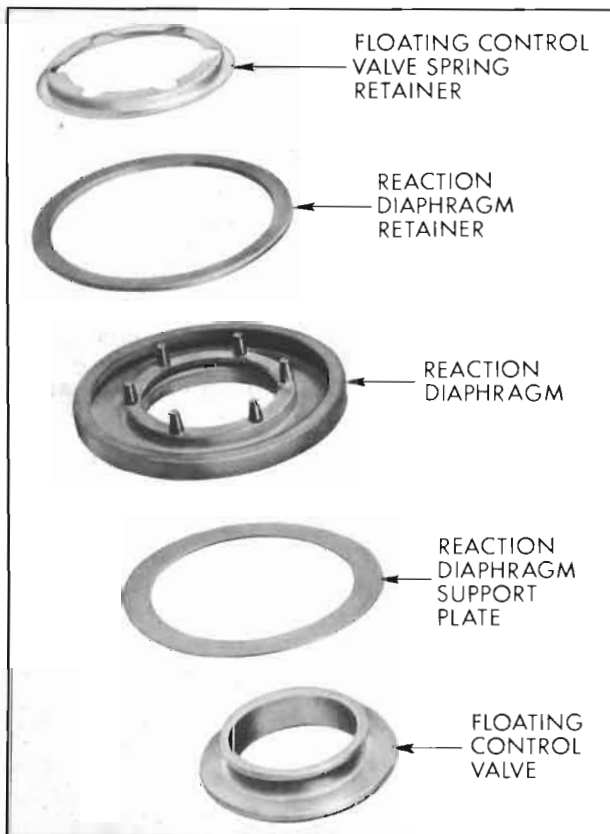

Figure 9-20—Floating Control Valve and Diaphragm Assembly
4. To assemble floating control valve and diaphragm assembly, place reaction diaphragm support plate over hub of floating control valve. See Figure 9-20. Assemble reaction diaphragm over hub of floating control valve flat side first so that hub flange fits into groove in I.D. of diaphragm. Insert reaction diaphragm retainer under lip of reaction diaphragm. Firmly press floating control valve spring retainer on center of reaction diaphragm so that retainer fits over six small rubber bumpers.